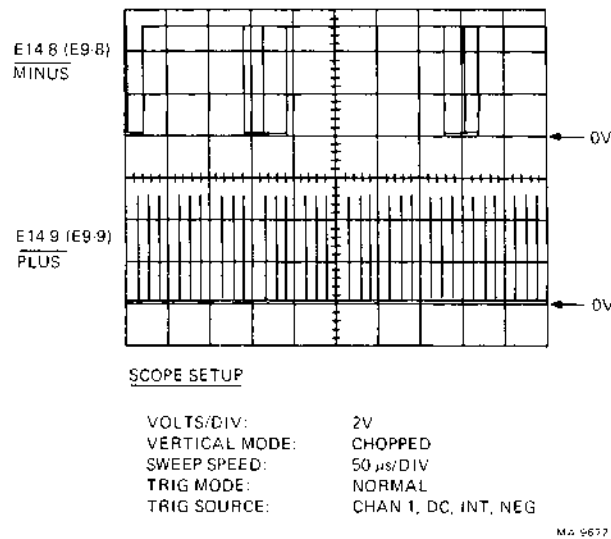

Figure 6-6 DC Servo Motor Being Driven Clockwise
12. Set the scope as shown in Figure 6-6 and apply power to the terminal. The waveform on the scope should match the waveform in Figure 6-6.